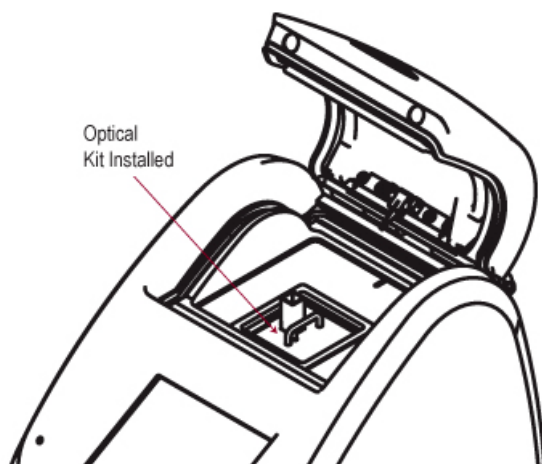

Figure 5.
3. Press down firmly to lock the Optical Application Module in place. (See Figure 5.)